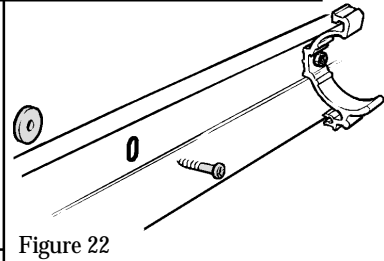

Figure 22
8.7 Fix the backing plates to the wall. The plastic spacing washers must be fitted between the backing plates and the wall. Fit using the wood screws provided (see figure.22).